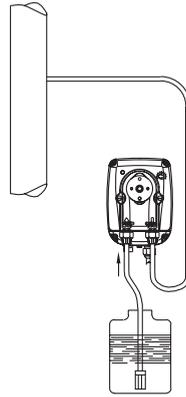

Fig. 5
- c. - Locate the pump as shown in fig. 5 bearing in mind that it may be installed either below or above the level of the liquid to be dosed, though the level difference should not exceed 2 meters. In case of liquids that generate aggressive vapours, don't install the pump above the storage tank unless the latter is hermetically sealed.